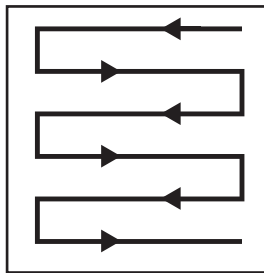

Fig. 15
5. Mow in slight overlapping rows. The most effective pattern for mowing lawns is straight lines along one of the sides. This will keep the rows even and ensures that all the lawn is cut without missing any spots (Fig. 15).
8. Empty the grass catcher (15) regularly.